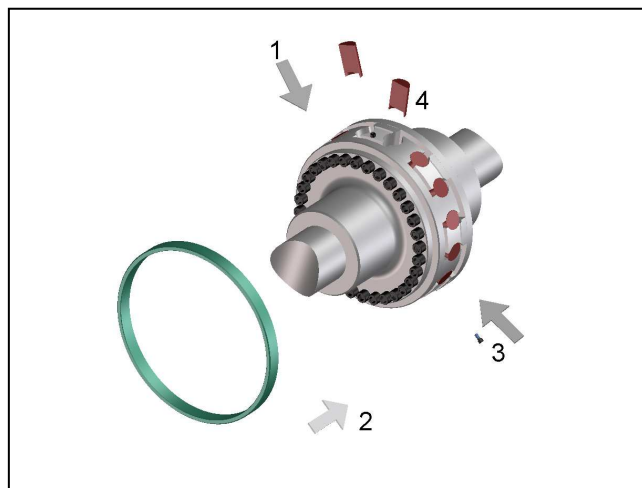

Fig. 6
- Push together the shaft ends with the mounted coupling halves while observing the mounting dimension 'h' acc. to table 7 (Fig. 6).
- Mount the buffers with the hollow pointing inwards (Fig. 6, Pos. 4).
- Push on the retaining ring until it contacts the hub face, so that the ring is seated centrally above the elastic buffers. (Fig. 6, Pos. 4).
- Tighten the locking screws at the retaining ring (Fig. 6, Pos. 3) to the tightening torque  $M_A$  specified in table 4.